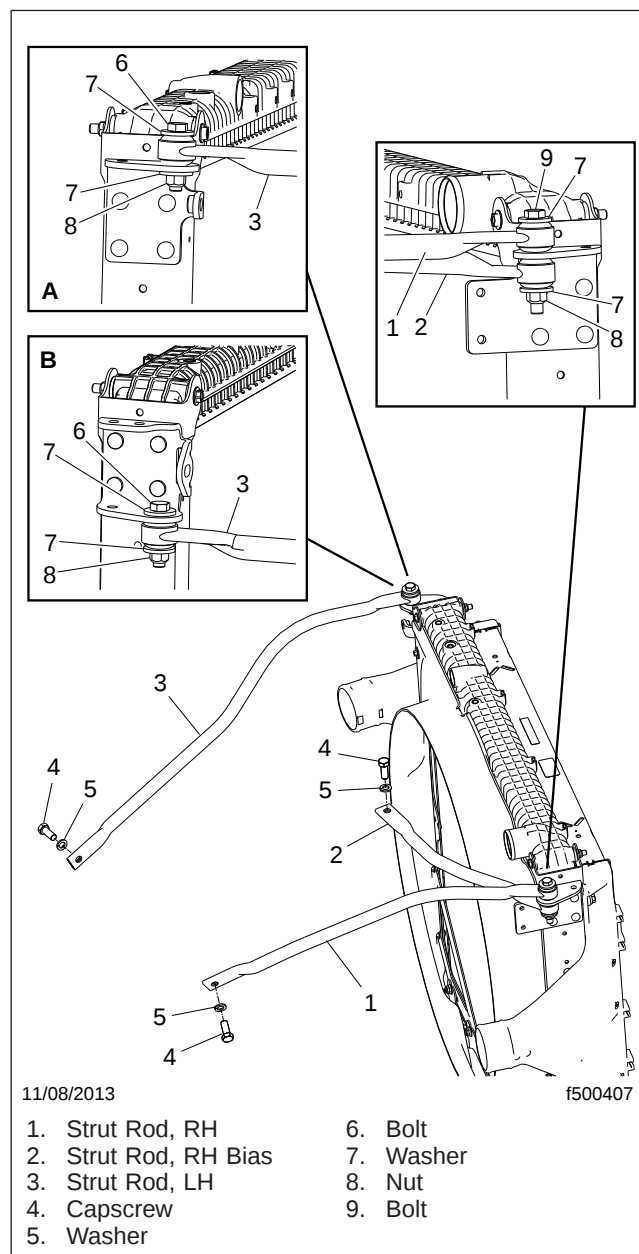
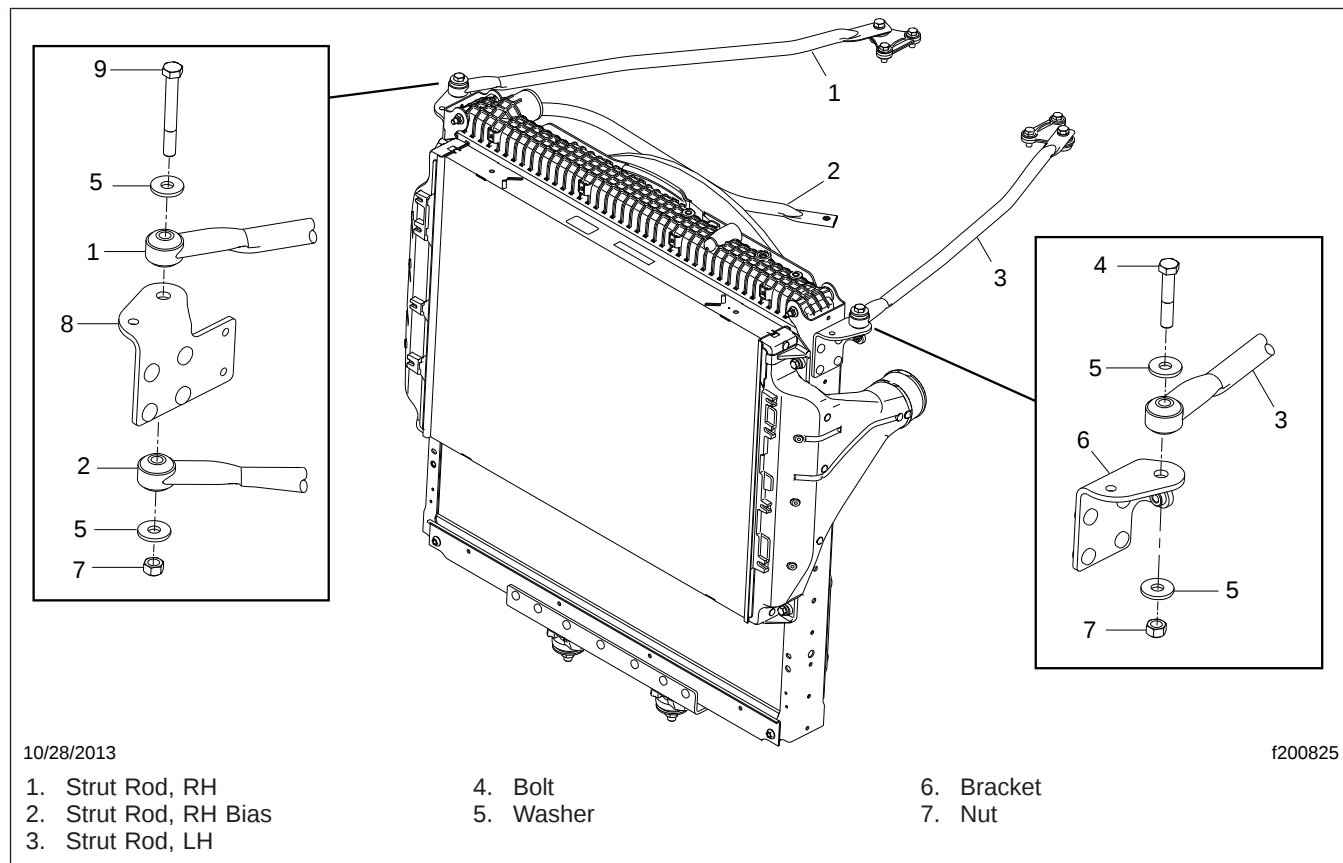

Fig. 18, Isolated Radiator Strut Rod Installation, DDC Engine
Fig. 19, Isolated Radiator Strut Rod Installation, Cummins Engine
35. Install the new isolated radiator strut rods. See Fig. 18 for DDC engine installations, or Fig. 19 for Cummins engine installations. Tighten the radiator strut rod fasteners at the radiator 55 to 65 lbf·ft (75 to 90 N·m), and at the engine block 125 to 139 lbf·ft (171 to 188 N·m) for DDC engines, or 55 to 65 lbf·ft (75 to 90 N·m) for Cummins engines.